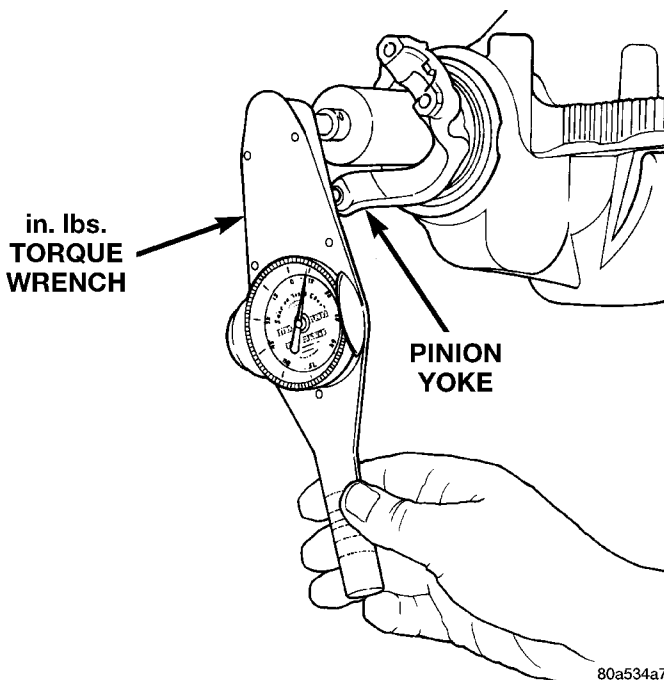

Fig. 54 Check Pinion Gear Rotation Torque
(11) Slowly tighten the nut in 6.8 N·m (5 ft. lb.) increments until the rotating torque is achieved. Measure the rotating torque frequently to avoid over crushing the collapsible spacer (Fig. 54).
(12) Check bearing rotating torque with an inch pound torque wrench (Fig. 54). The torque necessary to rotate the pinion gear should be:
(13) Install differential assembly.